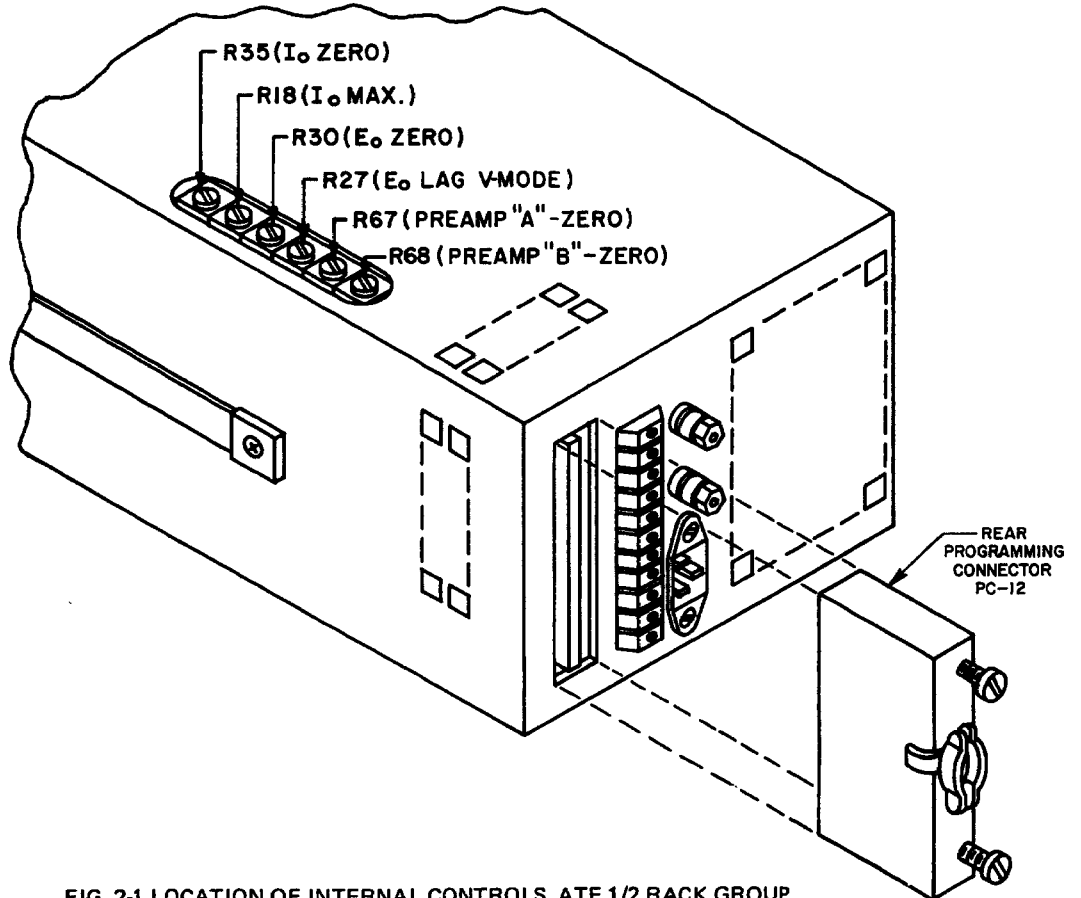

FIG. 2-1 LOCATION OF INTERNAL CONTROLS, ATE 1/2 RACK GROUP.
- c) INTERNAL CONTROLS: Refer to FIG. 2-1 and Table 2-1.
- 2-19 LAG NETWORK ADJUSTMENT. The ATE power supply operating in the "fast" mode, is dynamically stabilized by means of an internal lag network (E_o LAG, R27, see FIG. 2-1 for location). This control should be adjusted, for each application, by monitoring the load with an oscilloscope and turning the LAG control for best output response and maximum dynamic stability under all operating conditions.